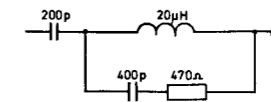

Fig. 16.
5.	f = 1400 kHz, 30% mod., via dummy ant. fig. 16.